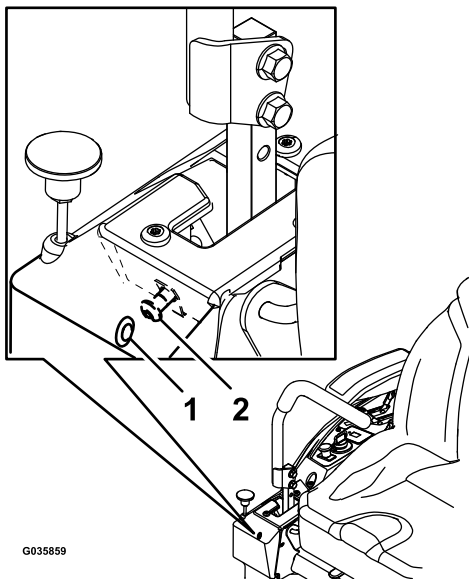

Figure 57
6. If the machine tracks to the right, insert a 3/16 inch hex wrench through the access hole in the right front cover panel and rotate the tracking screw clockwise or counterclockwise to adjust the travel of the lever (Figure 57).
7. If the machine tracks to the left, insert a 3/16 inch hex wrench through the access hole in the right front cover panel and rotate the tracking screw clockwise or counterclockwise to adjust the travel of the lever (Figure 57).